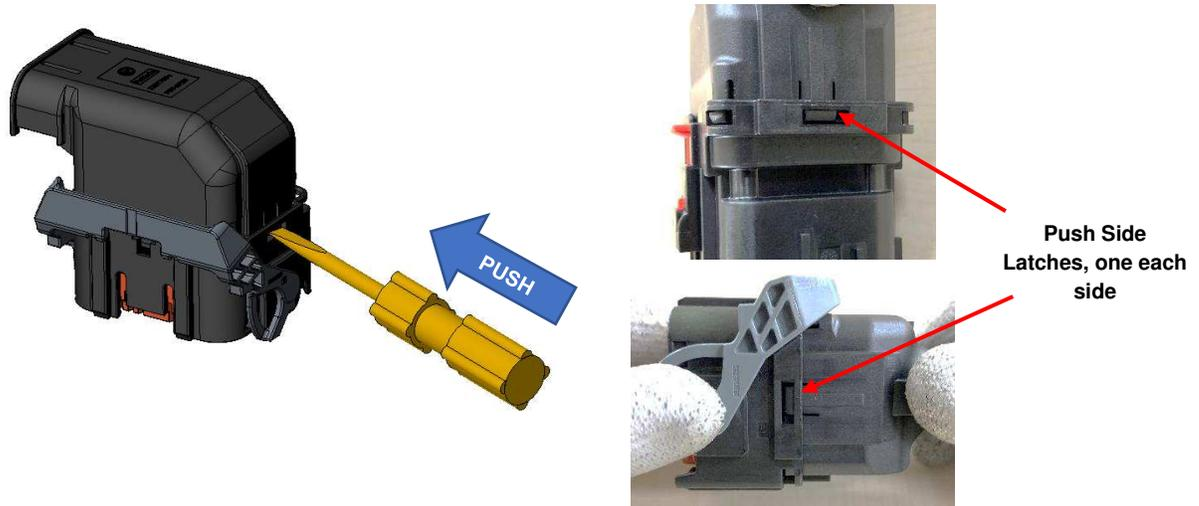

Figure 32
1. Using the tip of a screwdriver inserted into the latch window of the outer housing, release the latch of the wire dress cover by pushing inward on the latch. See Figure 32.